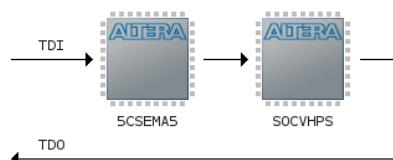

Figure 8-17. JTAG Scan Chain
You should now see 2 devices on the JTAG scan chain, as shown in Figure 8-17.
38. Right-click on the “5CSEMA5” device shown in Figure 8-17 and choose “Edit > Change File”. Then, select “DE1_SoC_demo/RTL/quartus/output_files/DE1_SoC_demo.sof” through the file browser.